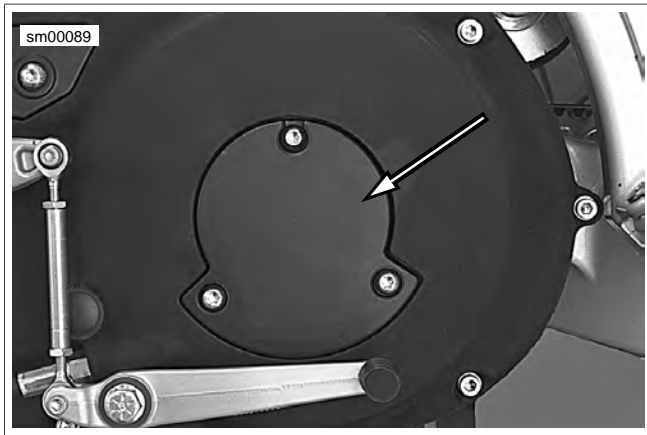

Figure 1-25. Clutch Inspection Cover (Typical)
5. See Figure 1-25. Remove three fasteners and washers from clutch inspection cover. Remove clutch inspection cover with gasket from primary cover.
9. See Figure 1-25. Install clutch inspection cover tightening three fasteners and washers to 84-108 **in-lbs** (9.5-12 Nm).
3. See Figure 1-25. Remove three fasteners and washers from clutch inspection cover. Remove clutch inspection cover and gasket from primary cover.
8. See Figure 1-25. Install clutch inspection cover and new gasket using three fasteners and washers and tighten to 84-108 in-lbs (9.5-12 Nm).